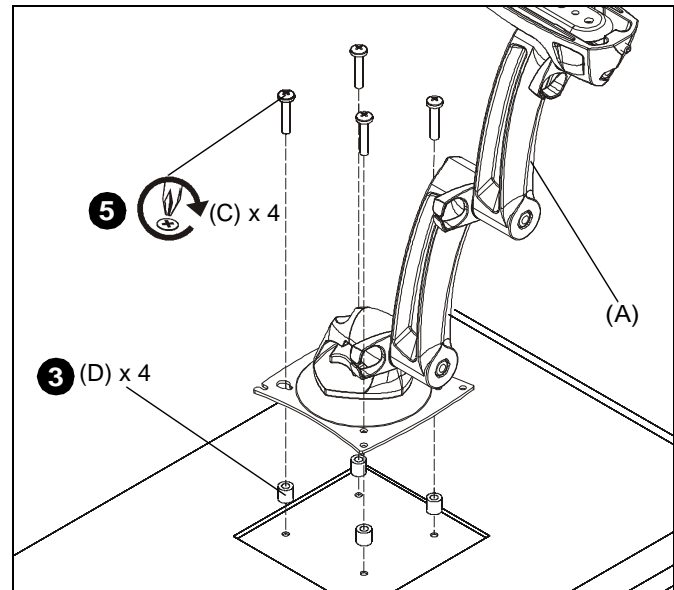

Figure 5
3. Place the four spacers (D) over each of the mount holes on the back of the display. (See Figure 5)
4. Pick up and orient the mount (A) so that the mounting holes are aligned with the holes in the spacers; rotate the bracket as required. (See Figure 5)
5. Using Phillips screwdriver, install four M4x25mm screws (C) through the mounting holes, through the spacers and into the display. (See Figure 5)